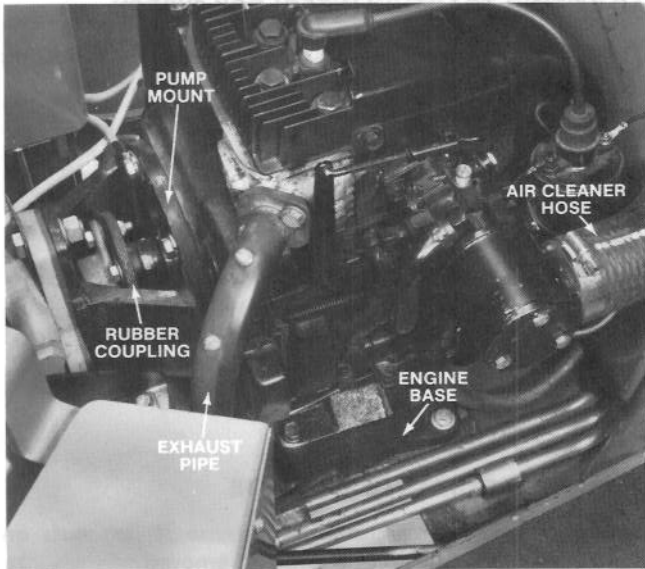

Figure 40
4. Remove the two capscrews securing the exhaust pipe to the manifold (Fig. 40).
6. Remove the four capscrews from the engine base and the pump mount (Fig. 40).
7. Remove capscrews, spacers, washers and locknuts securing rubber coupling between engine coupling and pump hub. Remove rubber coupling (Fig. 40).